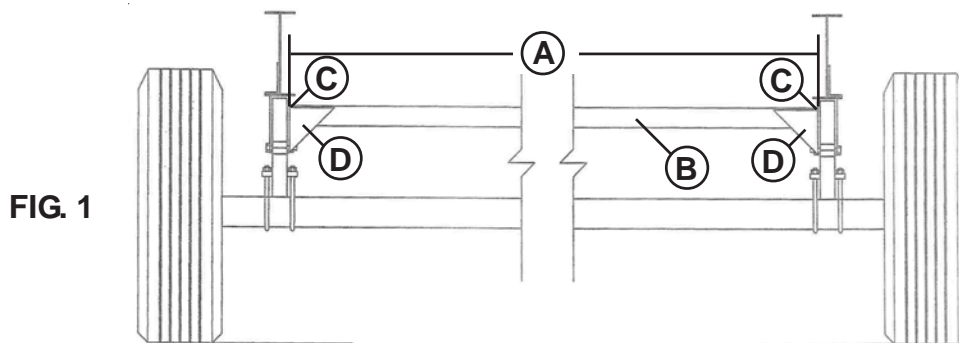

FIG. 1
3. INSPECT CRACK, FIG. 1 (A) AND CHECK FOR LENGTH OF CRACK.